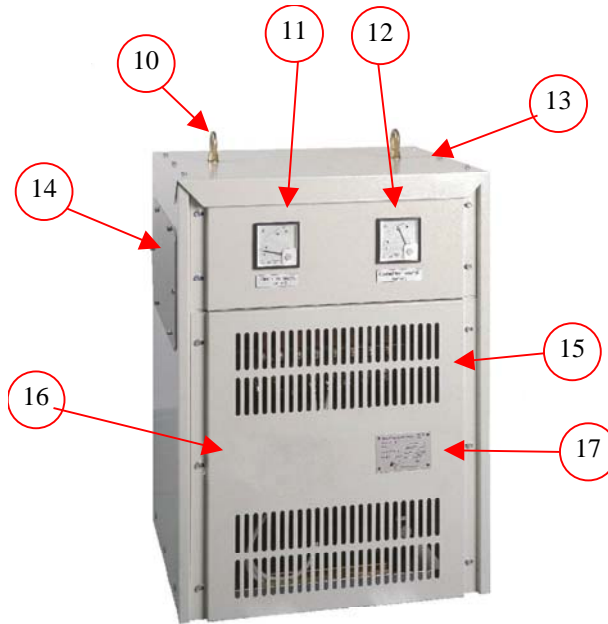

Fig. 3
For IP21 CleanWave® filters (see fig. 3), access to the terminals is possible either by removing, **without voltage**, the top panel (13), or the lower part of the front panel (16). The cables can be entered either from the bottom of the cabinet or through one of the side panels (17).